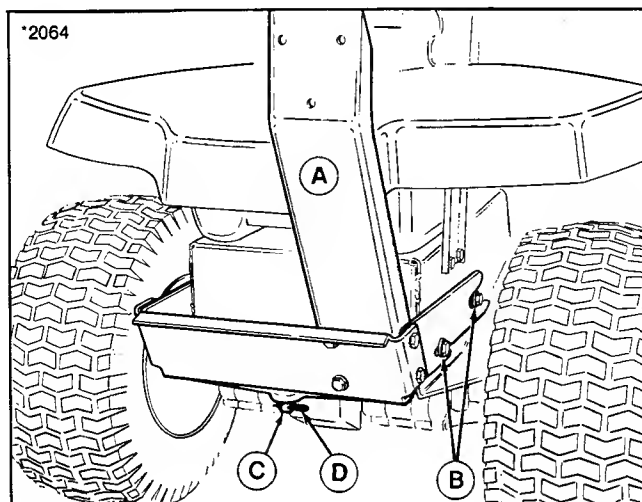
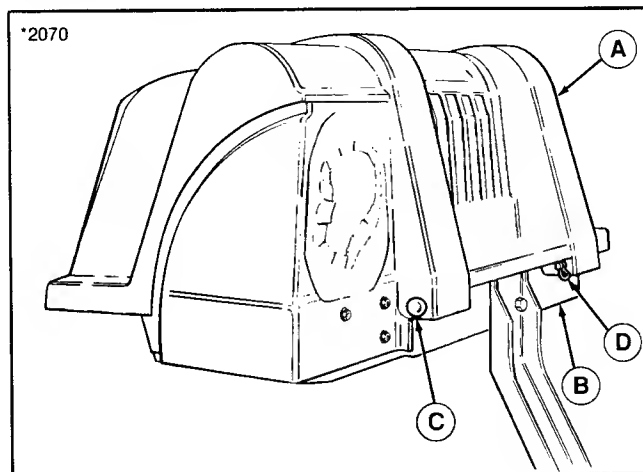

Figure 1.
Figure 2.
1. Install grass bag and bracket assembly (A, figure 1) onto frame spacers (B) as shown in figure 1. Guide front slots of bracket assembly over front spacers and push forward so assembly will rest on rear spacers. Install clevis pin (C) through back plate drawbar and secure with spring clip (D). If assembly is too bulky to install, separate grass bag cover (A, figure 2) from upright supports (B) by removing clips (D) and long clevis pins (C). Reinstall cover after support is installed.